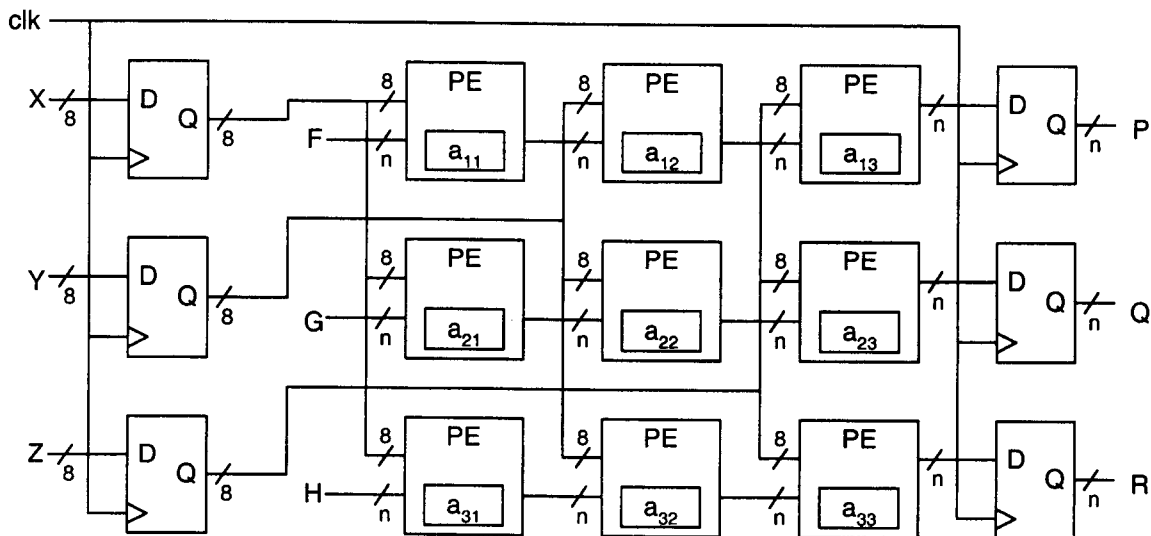

Figure 7.1
Figure 7.1 shows a circuit that performs the computation. It uses nine identical processing elements (PEs), each consists of a 2-bit register preloaded with the coefficient  $a_{ij}$ , one  $n$ -bit binary adder and other circuitry.
- c) Assuming that the binary adder delay is 5 ns, the delay through any two-input gate or multiplex is 1 ns, the setup and clock-to-output delay of the D flip-flop are both 1 ns, determine the maximum clock frequency for the circuit in Figure 7.1 circuit. [4]